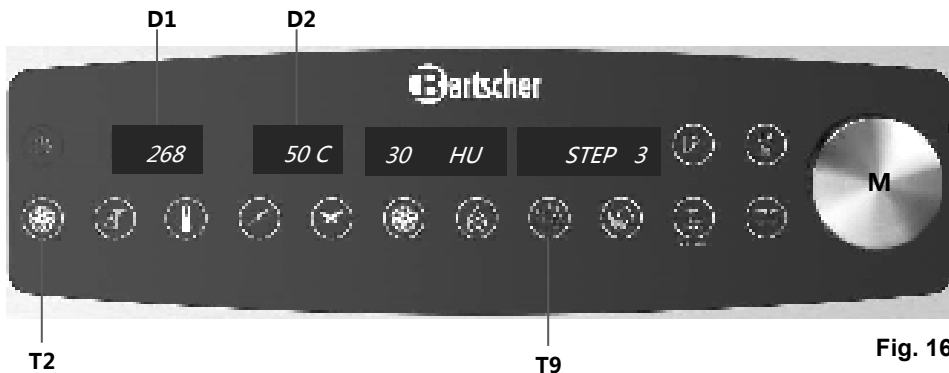

Fig. 16
After entering the parameters for the first cooking phase as described above press key **T9** (fig. 16) and rotate knob **M** clockwise. Indicator **D4** (fig. 16) displays the second phase **STEP 2**. Press key **T2** (fig. 16) to confirm the intention of programming of the next cooking phase.
**Hint:** during switching to the next cooking phase key **T2** (fig. 16) flashes until pressing. Flashing of that key indicates that the phase is not programmed and the device is unable to realize it.